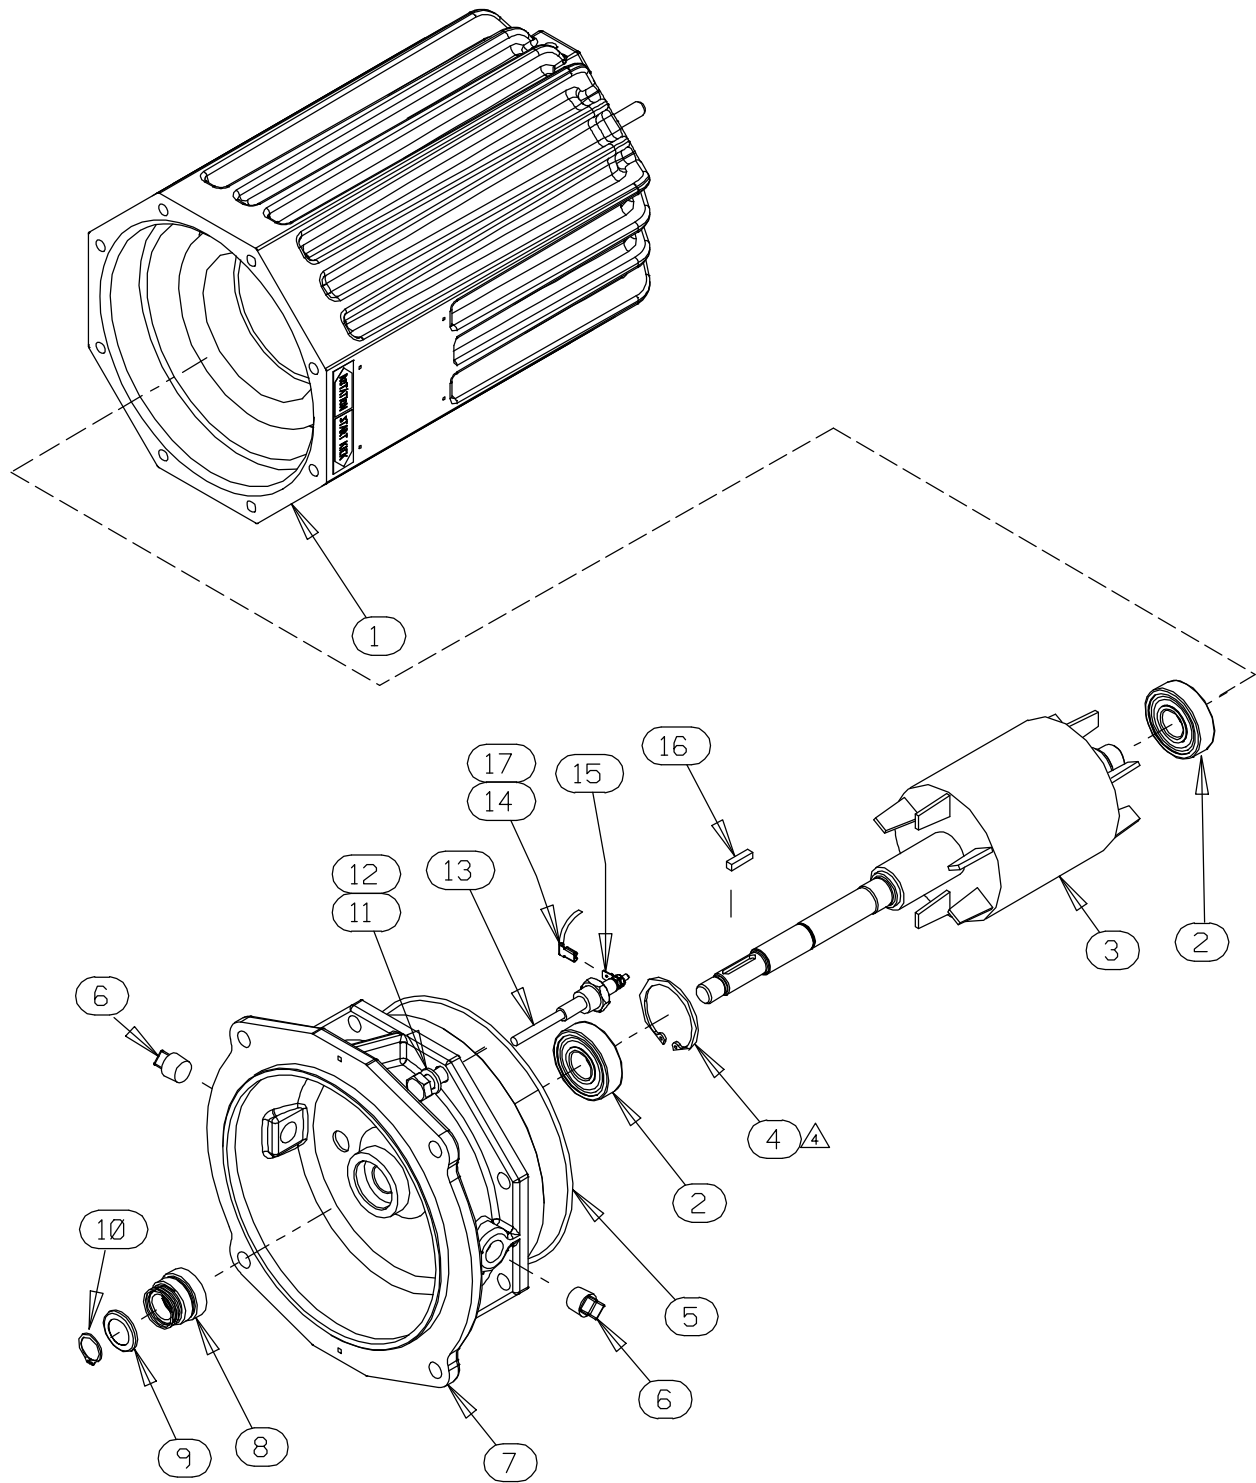

Figure E-2. 47111-803, -808, -809 and -857 Motor Assemblies
#### (Figure E-2)
To remove the impeller, use two thin-bladed screwdrivers positioned 180° apart to pry on the back of the impeller and “walk” the impeller off the shaft. Use increasingly larger screwdrivers (or wedges) as necessary. After the impeller comes free of the shaft, retain the impeller key (16, Figure E-2).
*An alternate method of removing the stationary element is to remove the screws (16) securing the seal plate (14) to the motor assembly (7). Pry the assembled seal plate and stationary element off the shoulder of the intermediate (8, Figure E-2). Remove the O-ring (6) and press the stationary element and seat out of the seal plate from the back side.*
(Figures E-2 and E-3)
With the pump inverted, stuff a clean tissue into the stationary seal seat bore of the intermediate (8, Figure E-2) or wrap a small rag around the shaft to prevent foreign material from entering the motor cavity.